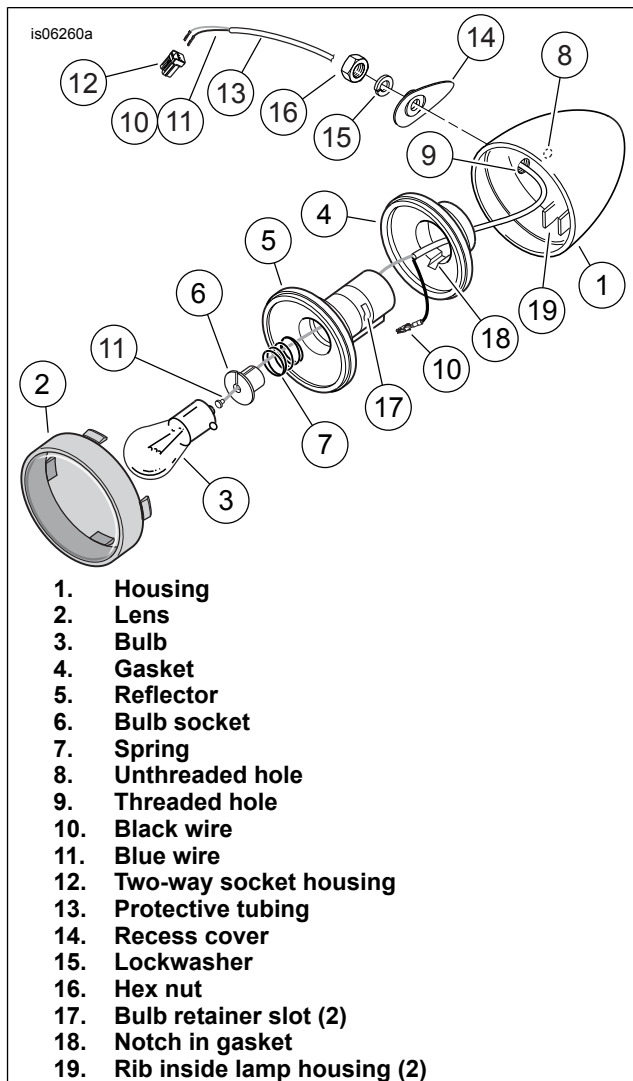

Figure 1. Turn Signal Lamp
7. See Figure 1. Insert the blade of a small screwdriver into the slot at the bottom of the lens (2) of one turn signal lamp, and twist to unsnap the lens from the housing (1). Push the bulb (3) in and rotate counterclockwise to remove. Set the lens and bulb aside for later installation.
8. Insert a right-angle pick or a 3 mm (7/64 in) hex key into the bulb socket cavity, hooking into one of the two bulb retainer slots (17) in the cavity. Pull the reflector (5) free of the lamp housing. Separate the rubber gasket (4) from the reflector or housing.
9. Slide the bulb socket (6) and spring (7) from the reflector. Remove the blue wire (11) with button terminal from the bulb socket.